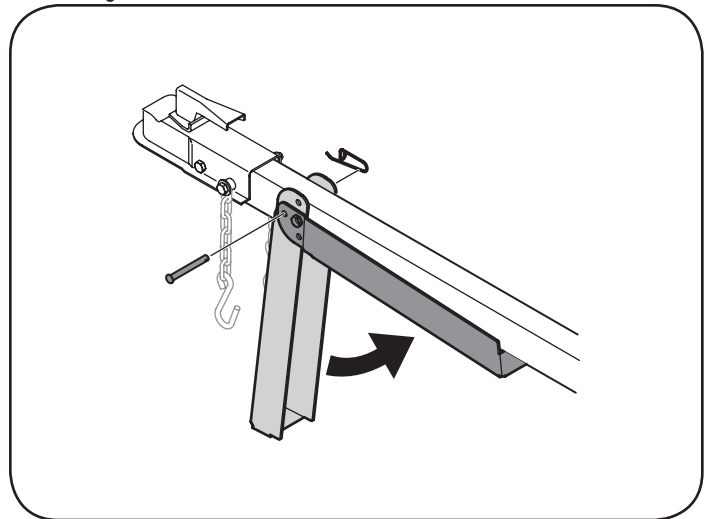

Figure 4-5
- Support the tongue and pivot the jack stand up against the tongue. See Figure 4-5.
- Secure the jack with the spring clip and clevis pin previously removed. See Figure 4-5.